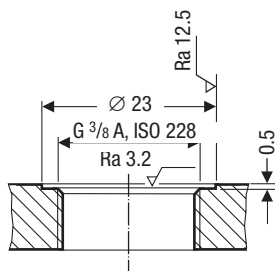

Fig. 3
- The seating surfaces of the standpipe or the flange provided on the vessel must be accurately machined, see **Fig. 3**.
- Provide a spacing of **approx. 40 mm** between the lower end of the measuring electrodes and the boiler wall, the smoke tubes and any other metallic fittings and the low water level (LW).
1. Check seating surfaces. **Fig. 3**